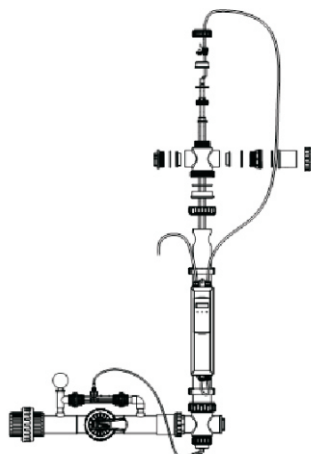

Fig 5
- 5.- The quality of the ozone air in the system can be adjusted using the ball valve. The closer the ball valve is positioned; the more ozone air will enter the venture. The ideal range on the manometer is between 0.4 and 0.7 bar. (Fig 5).